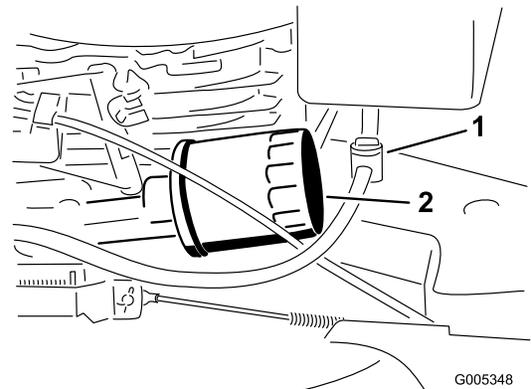

Figure 25
6. Place a rag under the oil filter to catch any oil that may leak out as you remove the filter (Figure 25).
3. Close the fuel valve (Figure 25).